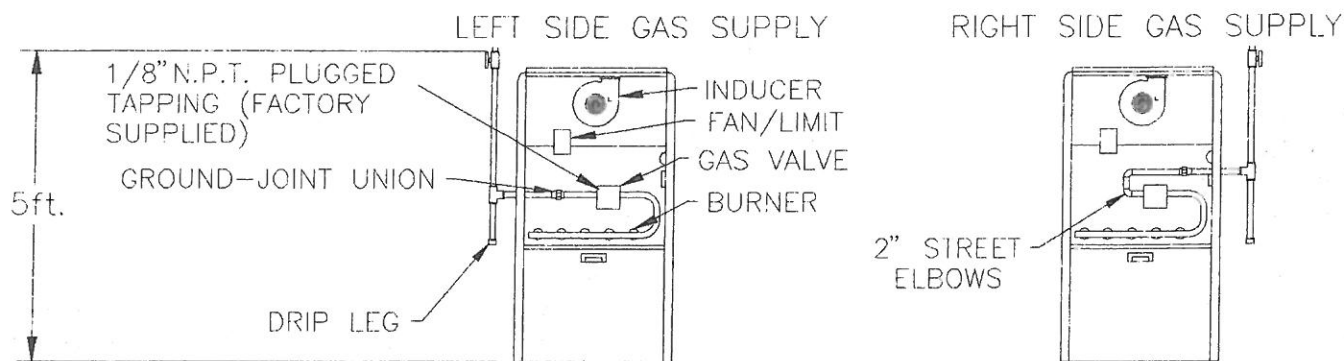

Figure 4
2. Left and Right Gas Supply Piping - This furnace is set up for left side gas piping using a straight pipe. If right side gas piping is required, use two field supplied street elbows to line up with knockout hole in right side of cabinet. (see Figure 4)